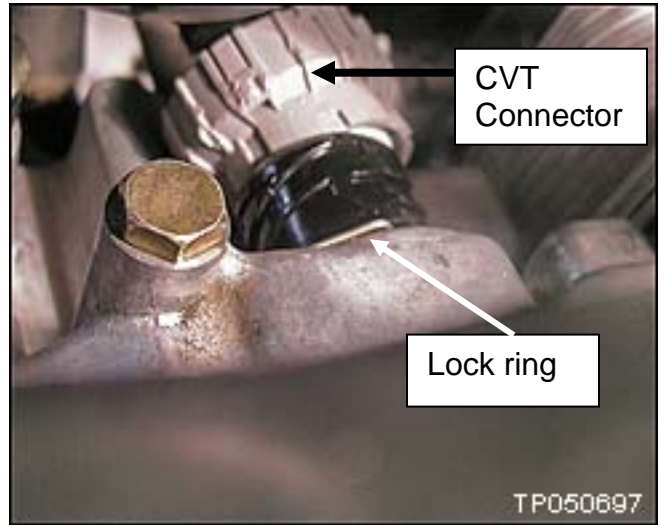

Figure 6
4. Remove the large lock ring holding the CVT connector to the transmission case (see Figure 6).
19. Reinsert the CVT connector with locking ring into the case as shown in step 4, Figure 6. Make sure that the locating notch is properly engaged.